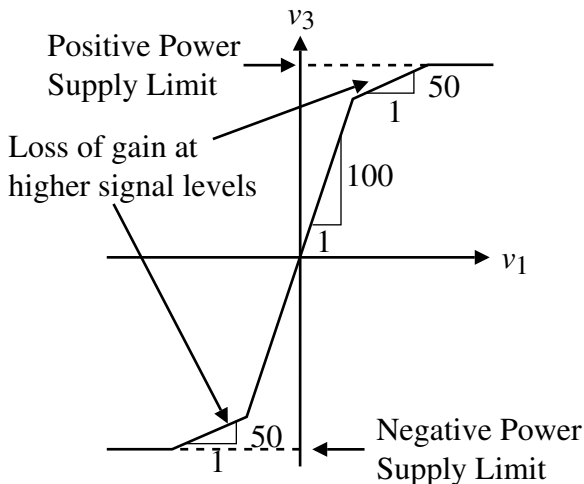
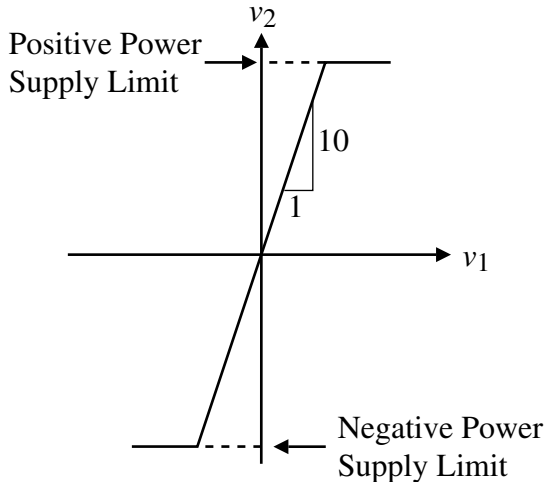

Figure 4 041112-04
Figure 3 041112-03
However, since A1 is a low level amplifier, its transfer function may be represented by Fig. 3. The overall transfer curve of the amplifier will be the product of Figs. 2 and 3 which is represented in Fig. 4.
function is given in Fig. 6. The slope in the high signal level region is found by substituting $A_2 = 5$ and $\beta = 0.4$ into Eq. (1) and multiplying by 50, the gain of A_1 . The slope in this region turns out to be $250/3 = 83.3/1$. Comparing this with the slope in the high signal region of Fig. 3 shows that the slope more closely matches that of the small signal region, i.e. 100.